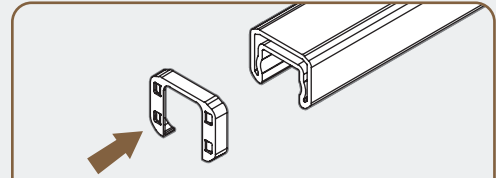

Fig.10-1 - Install gaskets over bottom rail ends
- IF USING gaskets install them over rail ends (Fig. 10-1)